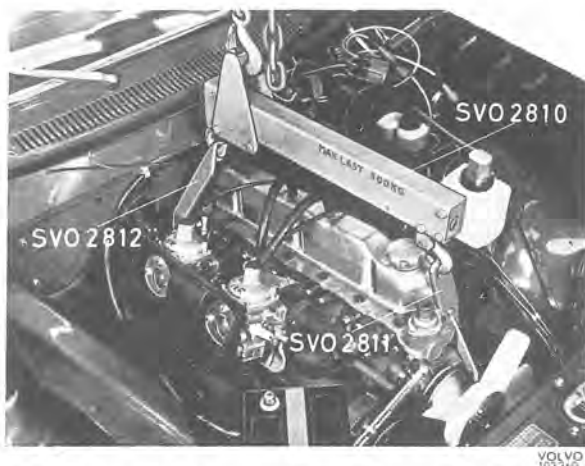

Fig. 2-12. Lifting out engine with lifting tool SVO 2810
11. Remove the lower nuts from the engine front mountings. Fit the engine lifting unit with lifting beam SVO 2810 and move the block runner to the rear end of the lifting beam, see Fig. 2-12. (Use a nut puller for this adjustment.)